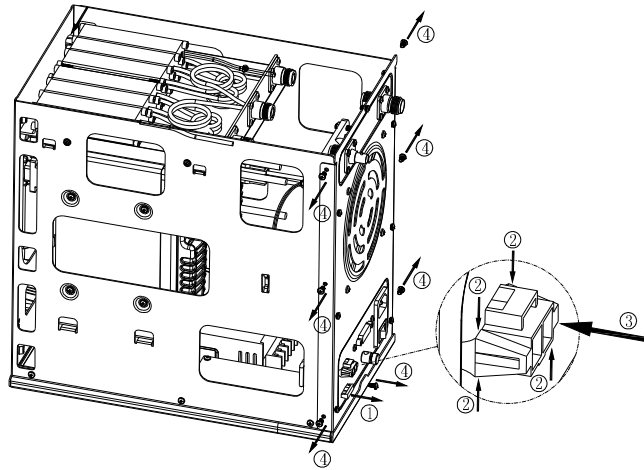

Figure 5
1. Pull out the ATO fuse □, shown as Figure 5.
2. Press the spring latch □ located on the two edges of the DC socket, and push the DC socket into the housing to separate the socket from the rear plate □, shown as Figure 5.
3. Remove the seven screws (M3.0X6.0) □ that secure the rear plate using a screwdriver, shown as Figure 5.